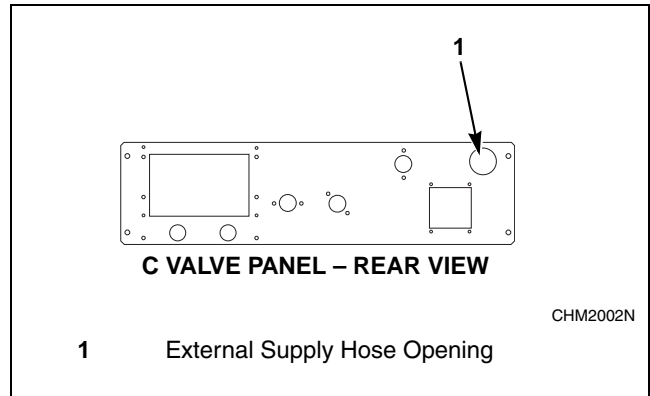

Figure 45
1. Facing the rear of the machine, locate the 1.5 inches (38 mm) opening found at the upper right-hand side of the valve panel. Refer to Figure 45.